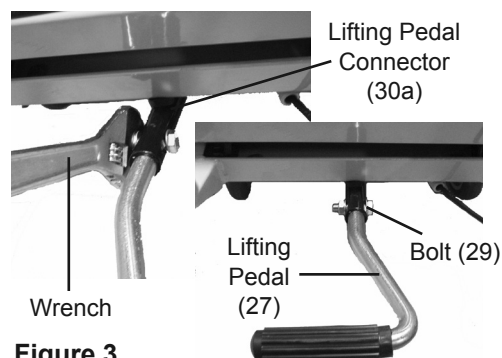

Figure 3
3. Slide Lifting Pedal (27) into Pedal Connector (30a), aligning the installation holes. Then slide the Bolt (29) through the Washer (15) and through the installation holes. Use the wrench to fasten the Lock Nut (12) over the Bolt, securing Lifting Pedal in place. See Figure 3.